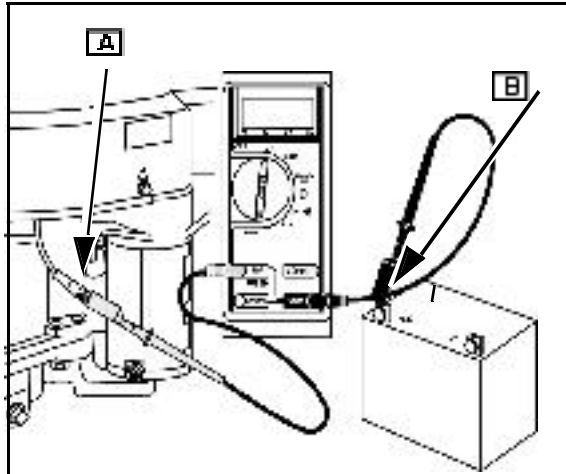

Fig. 14
2. Attach RED test lead clip to DC output terminal connector ([A] Fig. 14).
3. Attach BLACK test lead clip to positive (+) battery terminal ([B] Fig. 14).